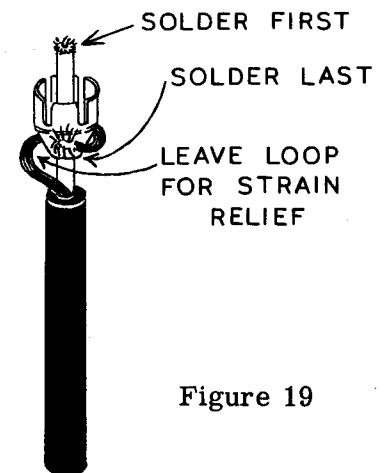

Figure 19
- (✓) Install the phono connectors on each end of the cable as shown in Figure 19. Insert the prepared inner conductor through the back of the connector until it will go no further. A small amount of wire should show at the tip of the connector. Solder the wire to the connector at this point. Next, wrap the shield braid around the plug shell and solder securely. Repeat the operation for the opposite end of the cable, unless the audio equipment to be used with the tuner uses some other type of connector.